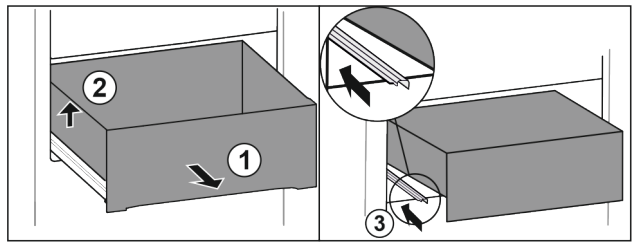

Fig. 96
- ▶ Pull out drawer as far as it will go. Fig. 96 (1)
- ▶ Lift drawer on the left. Fig. 96 (2)
- ▶ Insert left rail. Fig. 96 (3)